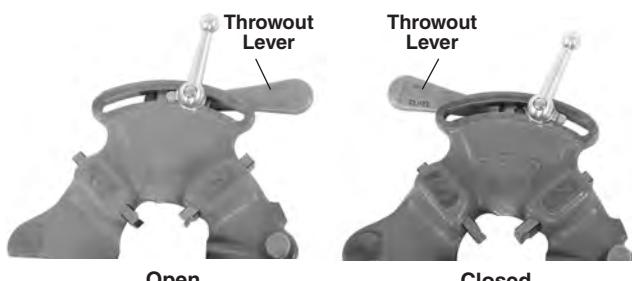

Figure 5 – Open/Closed Lever Position
- Move throwout lever to OPEN position (Figure 5).